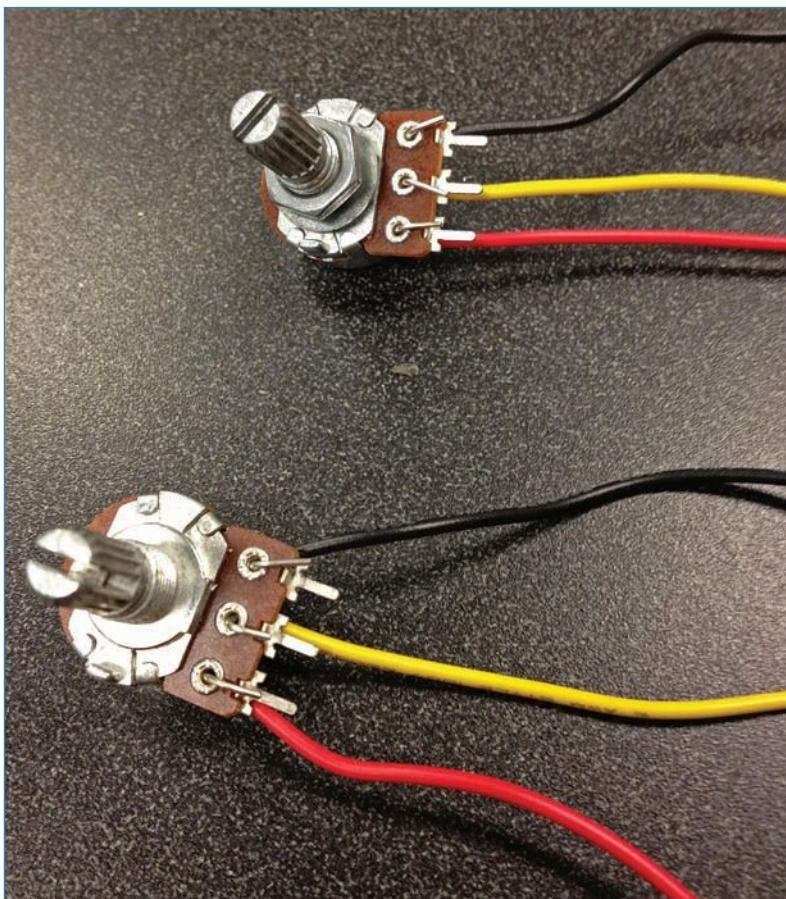

FIGURE 10.15 Wire up the potentiometers as you see here.
6. Let's start wiring! Solder wires to the potentiometers as shown in Figure 10.15—you did this in Chapter 3, “How to Solder.” Don’t make the wires too long! About 5" of wire should do the trick. Do the same with the switch, and then attach the three components to the top panel.